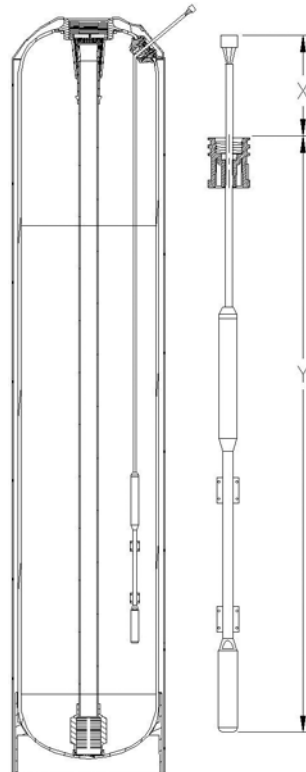

Figure 2
3. Install the outlet manifold into the tank (Figure 2).
- A. Measure the sensor cable length as shown in Figure 2 and Table 1 (the Aqua-Sensor® cord is set at the factory for a 9" tank).